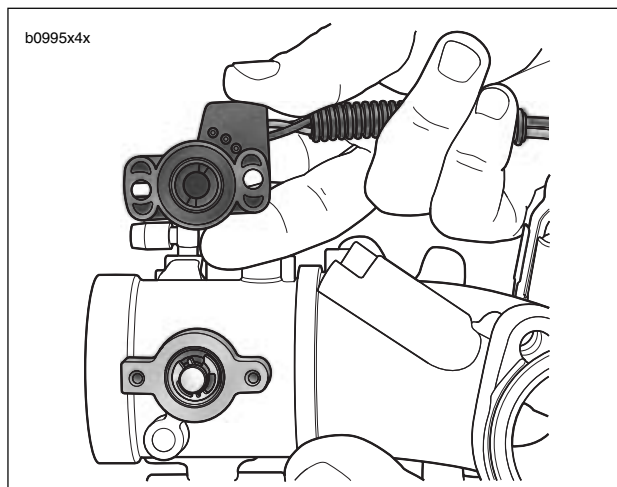

Figure 4-80. Throttle Position Sensor
3. See Figure 4-80. Remove two screws and washers to detach TP sensor.
1. See Figure 4-80. Apply LOCTITE 222 (purple) to threads of fasteners.